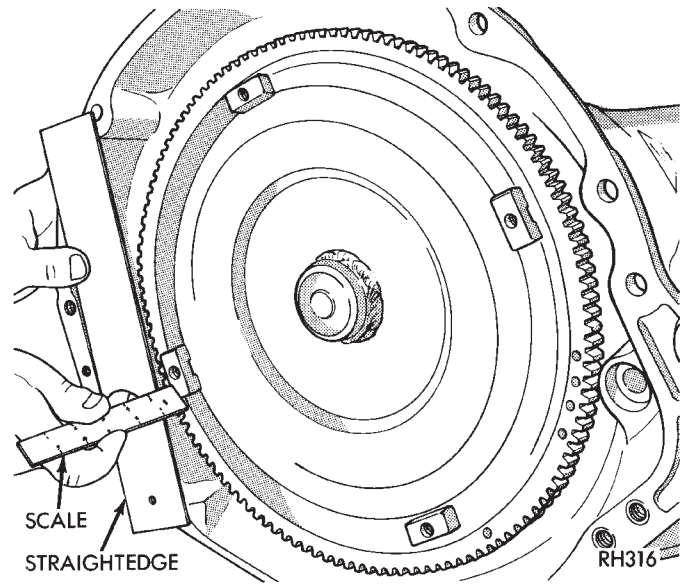

Fig. 4 Checking Torque Converter Seating
(1) Mount transmission on jack. Secure transmission to jack with safety chains.
(2) Check torque converter hub and hub drive notches for sharp edges, burrs, scratches, or nicks. Polish hub and notches with crocus cloth or 400 grit paper if necessary. Hub must be smooth to avoid damaging pump seal.
(3) Lubricate converter hub and pump seal lip with Mopar high temperature wheel bearing grease.
(4) Verify that converter is fully seated. Use straight edge and steel ruler to check seating (Fig. 4). Surface of
- (1) Mount transmission on jack. Secure transmission to jack with safety chains.
- (2) Check torque converter hub and hub drive notches for sharp edges burrs, scratches, or nicks. Polish hub and notches with crocus cloth or 400 grit paper if necessary. Hub must be smooth to avoid damaging pump seal.
- (3) Lubricate converter hub and pump seal lip with Mopar high temperature wheel bearing grease.
- (4) Verify that converter is fully seated. Use straight edge and steel ruler to check seating (Fig. 4). Surface of converter lugs should be 12.7 mm (1/2 in.) to rear of straight edge when converter is fully seated.
- (5) Temporarily secure converter with C-clamp attached to housing or with metal strap attached across converter housing.
- (6) Check condition of converter driveplate. Replace driveplate if cracked, distorted or damaged.
- (7) Verify that transmission dowel pins are seated in engine block and protrude far enough to hold transmission in alignment.
- (8) Coat torque converter pilot hub of crankshaft with light coat of Mopar high temperature wheel bearing grease.
- (9) Move transmission under vehicle and position it at rear of engine. Remove C-clamp or strap used to secure converter in housing.
- (10) Align transmission with engine dowels and align converter with driveplate. Offset holes in driveplate are next to 1/8 inch hole in inner circle of plate (Fig. 4).